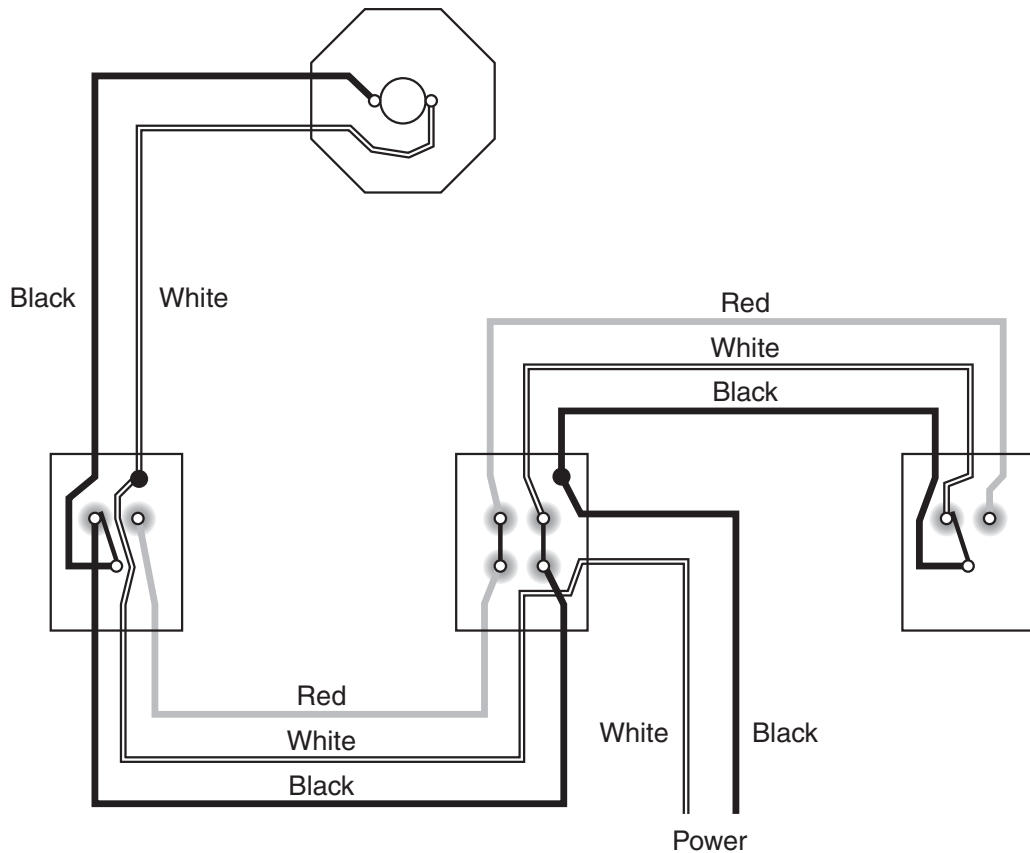

Figure 9-17 The 4-way switch is connected in the travelers.
4. *Connect the travelers.* In this example, the red and white wires of one three-conductor cable connect to one set of terminals of the 4-way switch, and the red and black wires of the other three-conductor cable connect to the other set of 4-way switch terminals (Figure 9-17). The white wire that is used as a switch leg should be re-identified by marking it with colored tape or paint in each box.